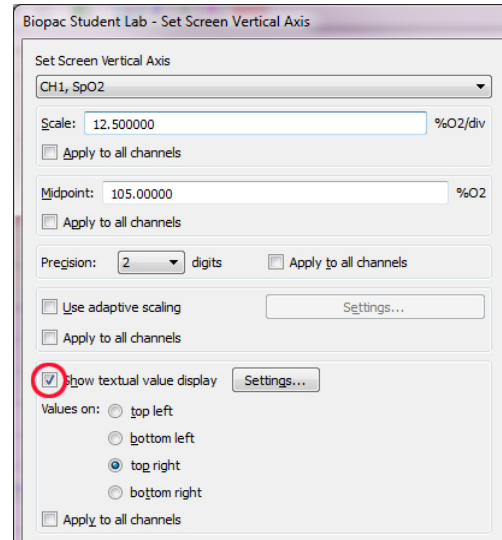

Figure 5
9. It may be useful to enable **textual value display** in order to show the numerical values for SpO2 during the recording. This option is not available in software prior to BSL 4.0. To enable, position the arrow cursor over the numerical values in the vertical scale region and click the mouse button. The dialog shown in Figure 5 will appear. Check the “**Show textual value display**” box and click “**OK**” to close the dialog.